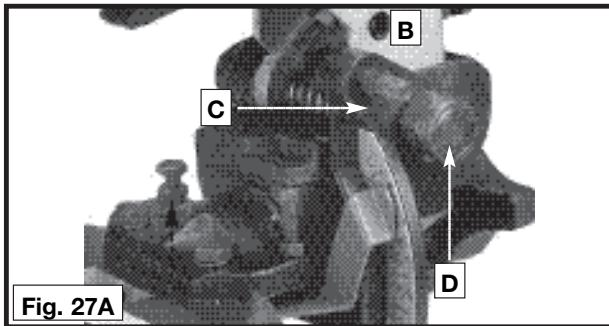

Fig. 27A
After a long period of time, an adjustment of the sliding fit between the cuttinghead arm (B) Fig. 27A, and the trunnion (C) may be necessary. To adjust, tighten the nut (D). This adjustment should not be so tight that it restricts the sliding movement of the cuttinghead arm (B) or so loose that it affects the accuracy of the saw cut.